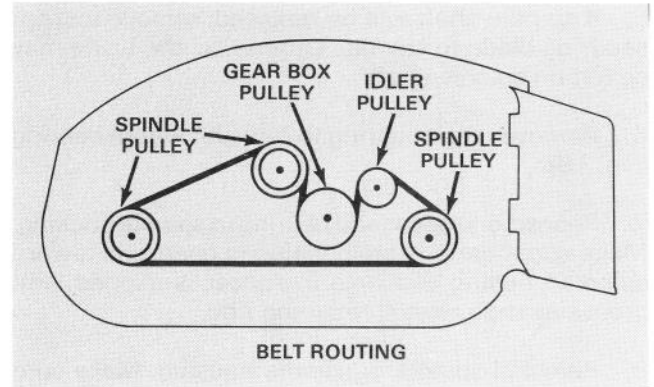

Figure 17
4. Install new belt around spindle pulleys, gearbox pulley, and idler pulley (Fig. 17).